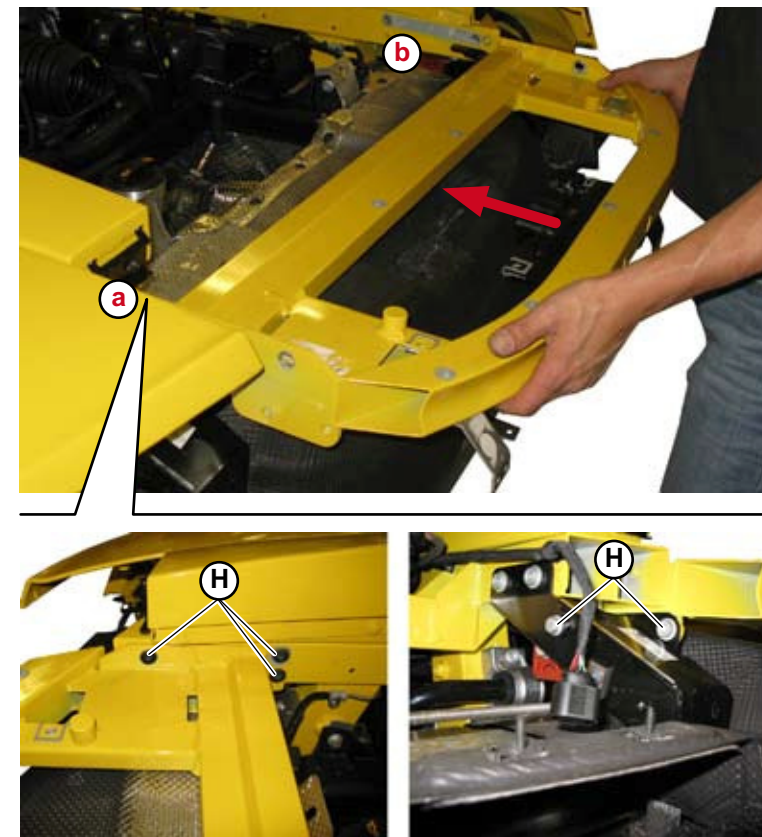

Fig.8
7. Tighten the 5 screws (**H-Fig.8**) and secure the cross member to the chassis.
Repeat the operation (point 7) for both sides (**a/b-Fig.8**) (fasten all 10 screws to lock the cross member onto the chassis).